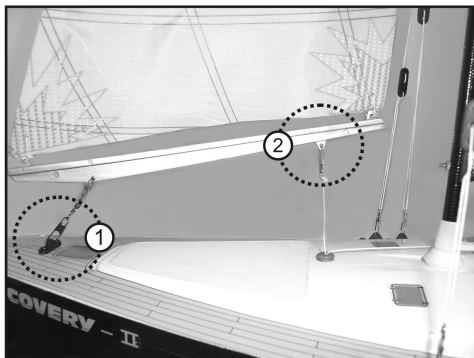

Figure 7
- Install the head sail to the boat deck with rope and hook as shown in figure 7, item 1.
- Attach the control rope to the „boom“ of the headsail as shown in figure 7, item 2.